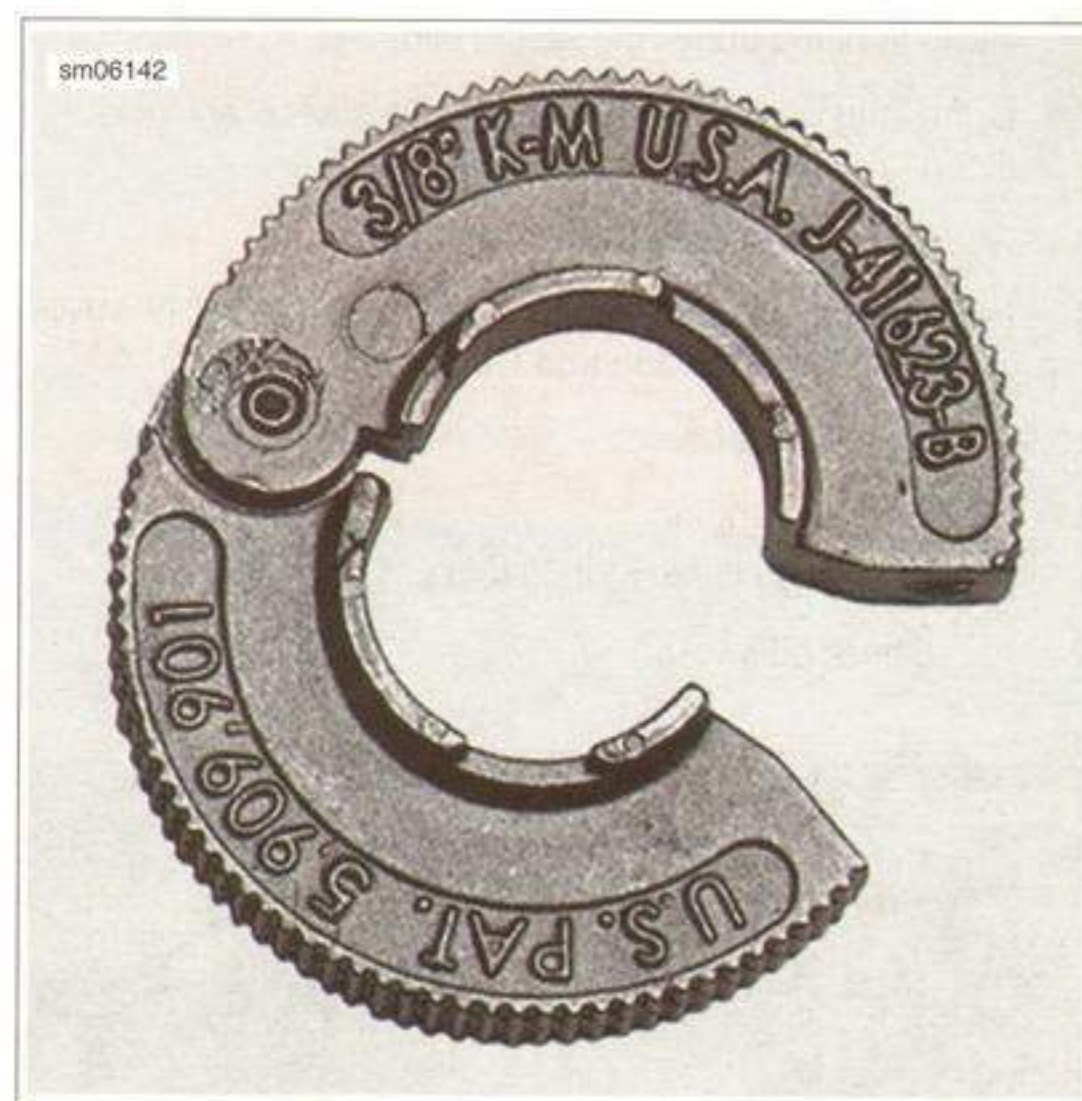

Figure 5-30. Oil Line Remover
5. See Figure 5-30. Close the OIL LINE REMOVER (Part No. HD-46503) over the oil line. Match the notches in the tool flange to the U-bends in the spring clip.